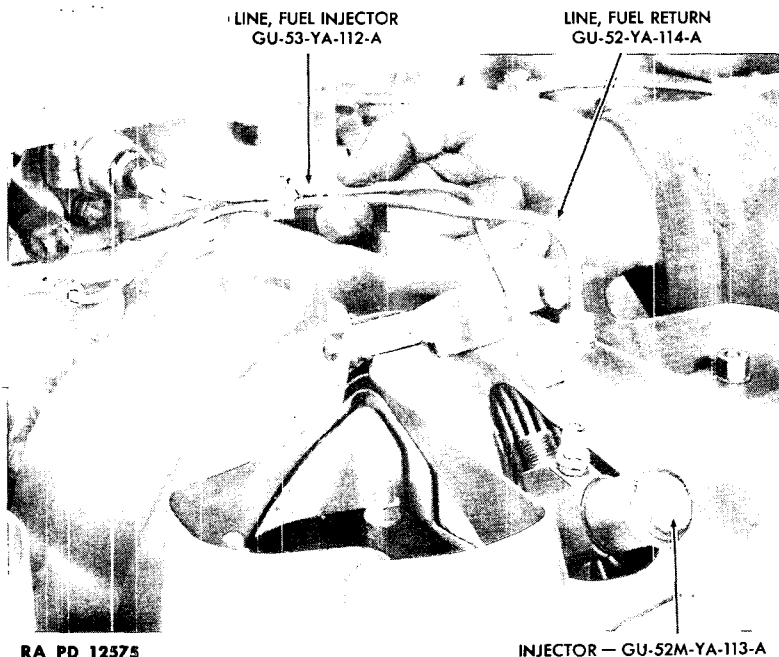

Figure 15—Fuel Injector and Lines
29. REMOVE THE INJECTOR LINES (fig. 15).
38. REMOVE THE FUEL INJECTORS (fig. 15).